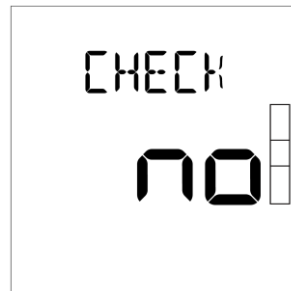

Fig 5.14
- Press power button to start the optical check, if the meter displays “Yes”, the meter is normal. If the meter displays “No”, it means that the meter is not functioning properly. (Ref Fig 5.14)